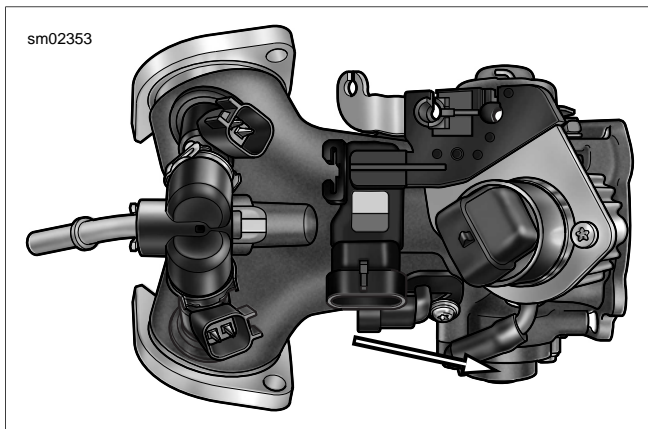

Figure 4-9. Throttle Position Sensor
4. See Figure 4-9. Unplug TP sensor connector [88].